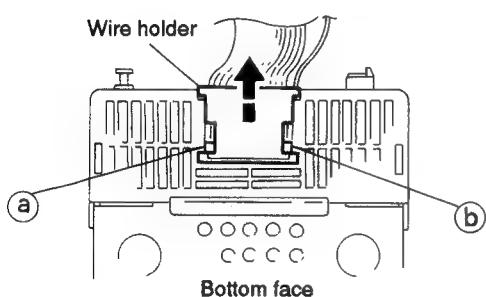

Fig. 5-21
■ Removing the rear cover (See Figs. 5-21~5-24)
1. While pressing the four pawls ⑧ and ⑨ for the wire holder with screw driver, etc., remove the holder by shifting it in the arrow direction.
2. Remove the two right and left side screws ② retaining the rear cover.
3. From the back face of the body, remove the five screws {③ x 2, ④ x 1 and ⑤ x 2} retaining the rear cover.
4. By disengaging the four engagements {⑥, ⑦, ⑧ and ⑨} between the right and left sides of the rear cover with screw driver, etc., remove the rear cover.